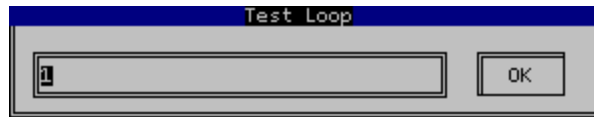

Fig 3.4
1. Goto Config_Menu, click on Test_Loop and choose Loop 1- 9999 at the menu shown in Fig 3.5. Enter the desire number of loops in box, Fig 3.4 below. Run_Test perform the number of test cycles loops as specified by user.